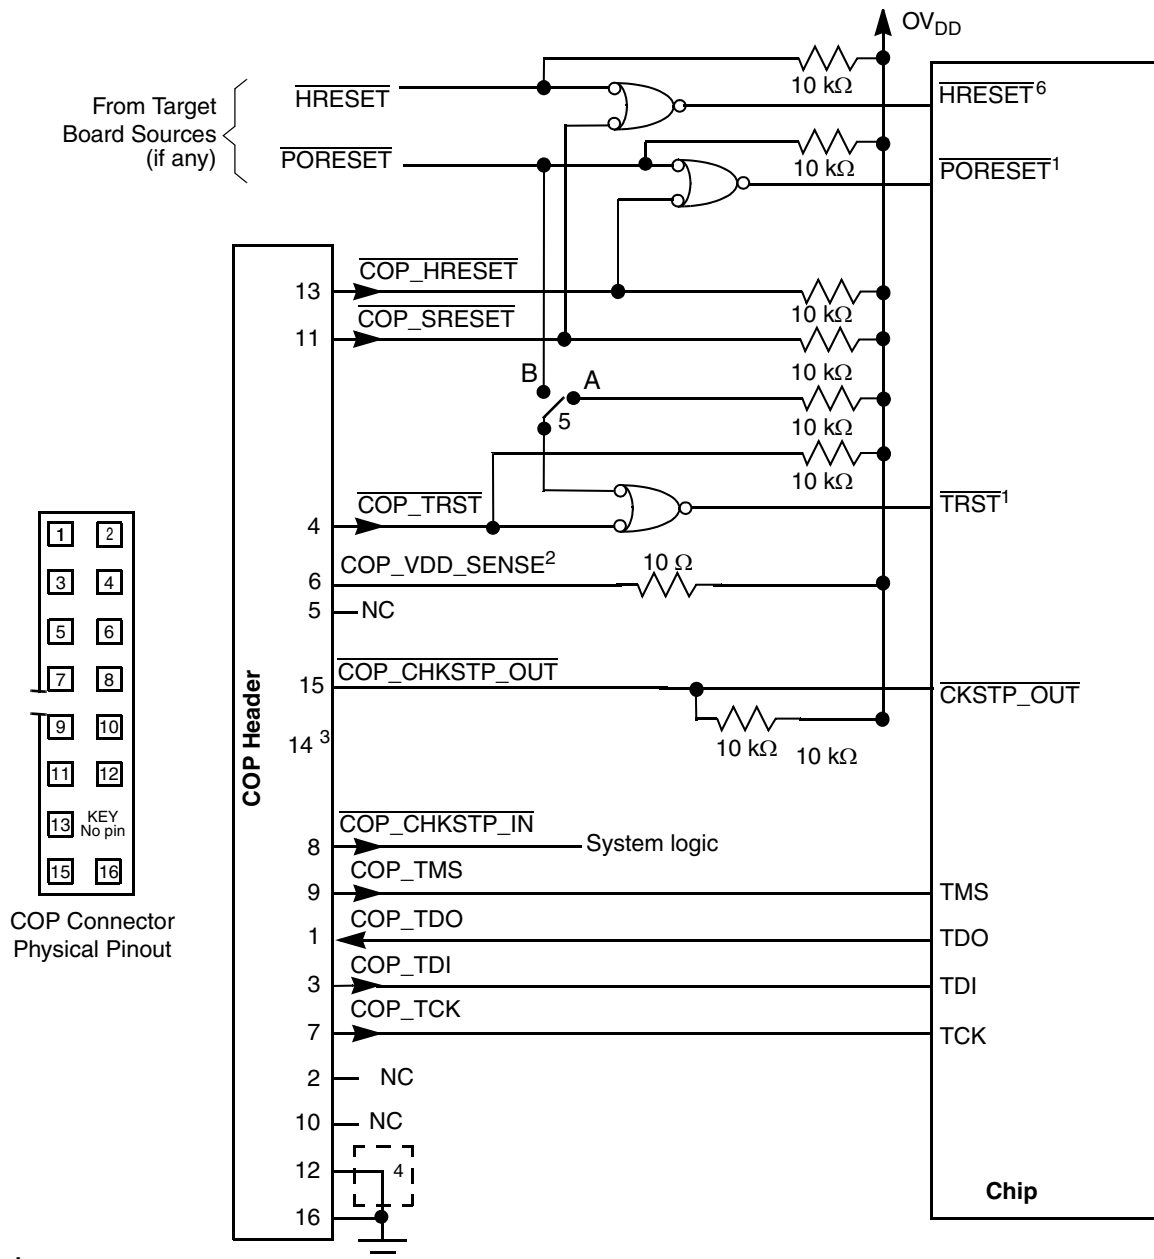

Figure 56. Legacy JTAG interface connection
Correct operation of the JTAG interface requires configuration of a group of system control pins as demonstrated in Figure 56. Care must be taken to ensure that these pins are maintained at a valid negated state under normal operating conditions as most have asynchronous behavior and spurious assertion gives unpredictable results.
The arrangement shown in Figure 56 allows the COP port to independently assert $\overline{\text{PORESET}}$ or $\overline{\text{TRST}}$, while ensuring that the target can drive $\overline{\text{PORESET}}$ as well.
- $\overline{\text{TRST}}$ should be tied to $\overline{\text{PORESET}}$ through a 0 k Ω isolation resistor so that it is asserted when the system reset signal ($\overline{\text{PORESET}}$) is asserted, ensuring that the JTAG scan chain is initialized during the power-on reset flow. Freescale recommends that the COP header be designed into the system as shown in Figure 56. If this is not possible, the isolation resistor allows future access to $\overline{\text{TRST}}$ in case a JTAG interface may need to be wired onto the system in future debug situations.